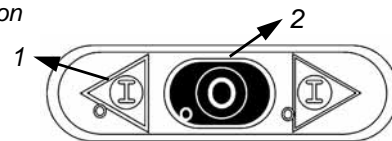

Fig. 5.3.1
5.3 - Check the efficiency of the stop button (fig. 5.3.1)
5.4 - Starting the machine (fig. 5.3.1)
To start the machine, just press the start button "1" Figure 5.3.1, after having properly connected the plug to the electric mains supply and the machine is activated.
5.5 - Stopping the machine (fig. 5.3.1)
To stop the machine, press the stop button, "2" Fig 5.3.1 and the machine stops